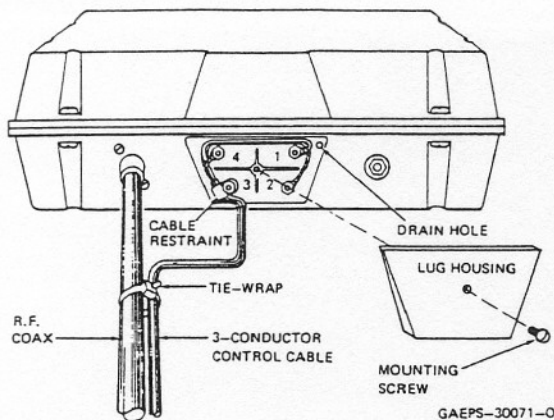

Figure 12.
Step 4. Route and connect the solder lugs of the control cable as shown in Figure 12. Tie-wrap the control cable to the coaxial cable, and attach the lug housing with mounting screw.